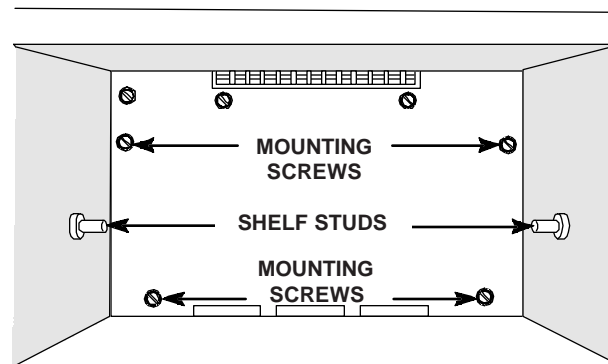

Fig. 30
1. Remove the evaporator mounting screws and remove the evaporator cover. (Fig. 30)